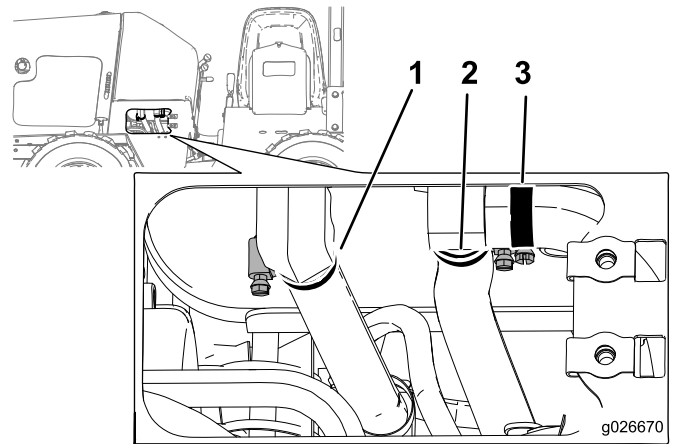

Figure 40
6. Remove the left side cover plate and loosen the 3 hose clamps under the hydraulic tank (Figure 40).